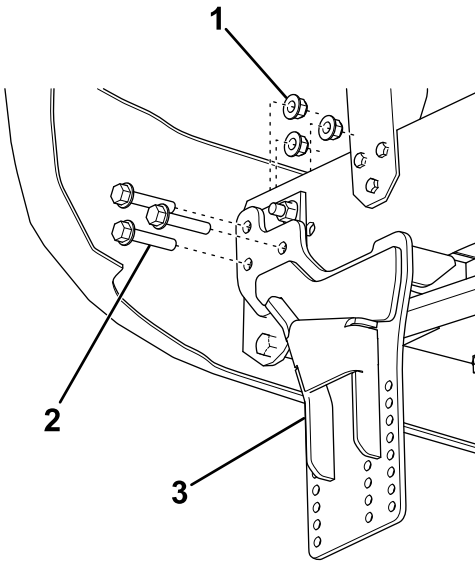

Figure 2
3. Loosely secure the sideplates to the vehicle frame using 3 bolts (M16) and locknuts (Figure 2).